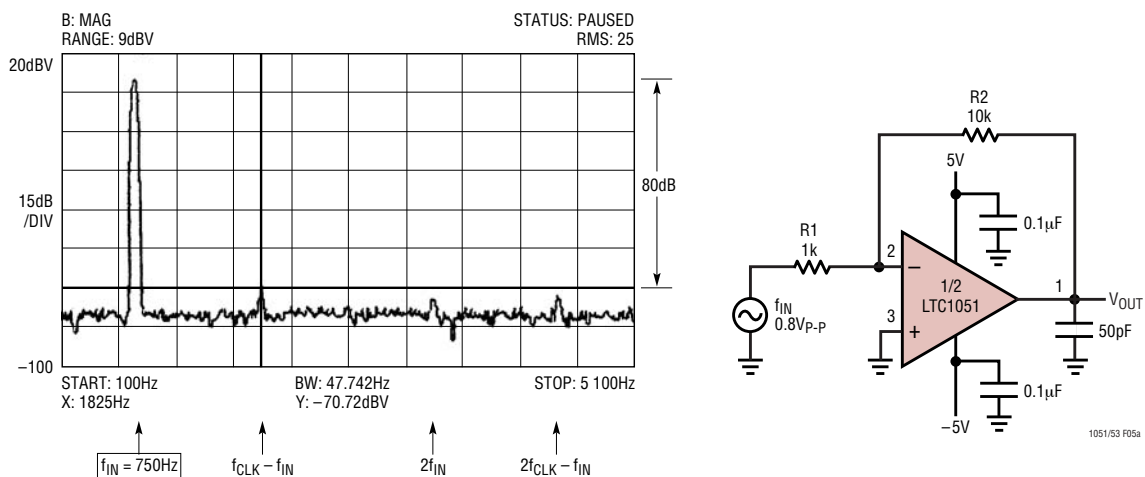

Figure 5a. Output Voltage Spectrum of 1/2 LTC1051 Operating as an Inverting Amplifier with Gain of 10, and Amplifying a 750Hz/800mV, Input AC Signal
2. If we arbitrarily accept that “aliasing” occurs when output alias signals reach an amplitude of 0.01% or more of the output signal, then: the approximate minimum frequency of an AC input signal which will cause aliasing is equal to the internal clock frequency multiplied by the square root of the op amp feedback factor. For instance, with closed-loop gain of -10 , the feedback factor is $1/11$ and if $f_{CLK} = 2.6\text{kHz}$, alias signals can be detected when the frequency of the input signal exceeds 750Hz to 800Hz (Figure 5a).